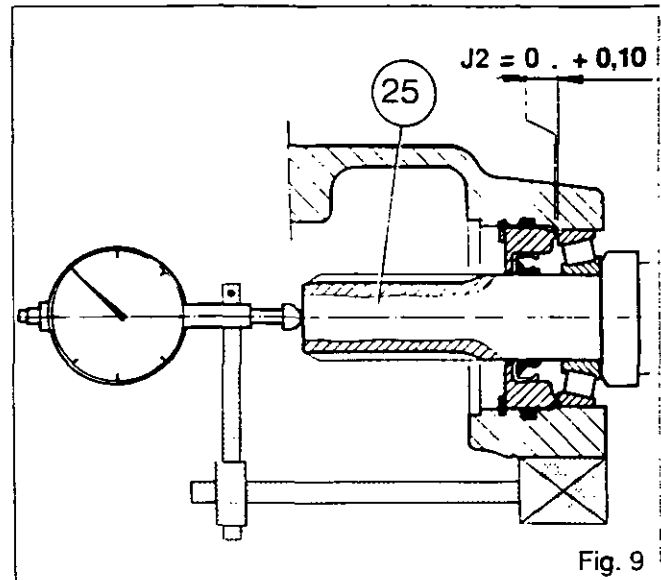

Fig. 9
**J2 = 0 to 0.10 mm.** fit the bearing cone (14), the shaft (25), the cup (18).
60. Mount the cup (22) and the circlip (23).
61. Place the tip of the dial gauge against the end of the shaft (25) (Fig. 9).
66. Remove the circlip (23), the cap (22), the cup (18) and the shaft (25).
67. Place the seal rings /12\ in the grooves of the shaft (25). Join up the ends. Ensure that they turn freely.
68. Place the bearing cone (14) in the cup (13). Fit the shaft (25) after having positioned the clutch assembly (16) and the transfer gear (15) in the housing.
69. Fit the cup (18) and the shim(s) [20] (smear with grease) selected in operation 65.
70. Fit the O-ring (21) in the groove of the housing.
71. Mount the cap (22) and the circlip (23), remove the protection of the shaft splines.